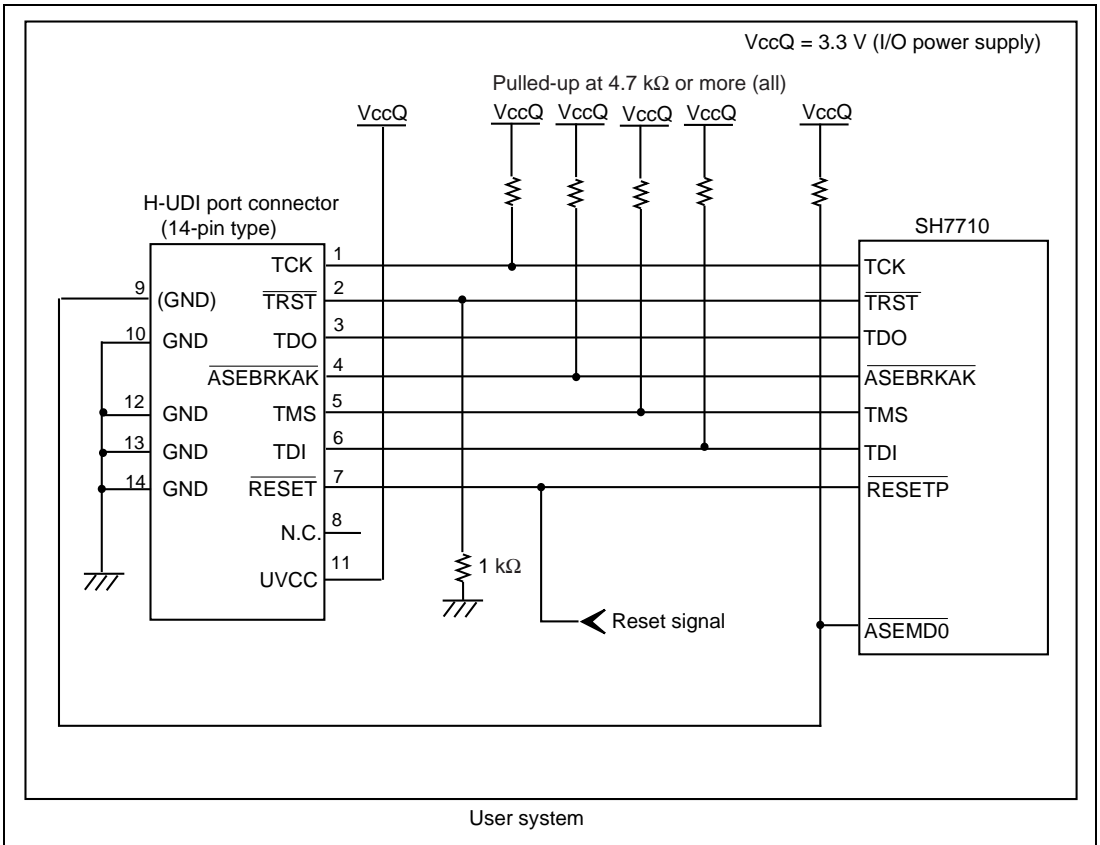
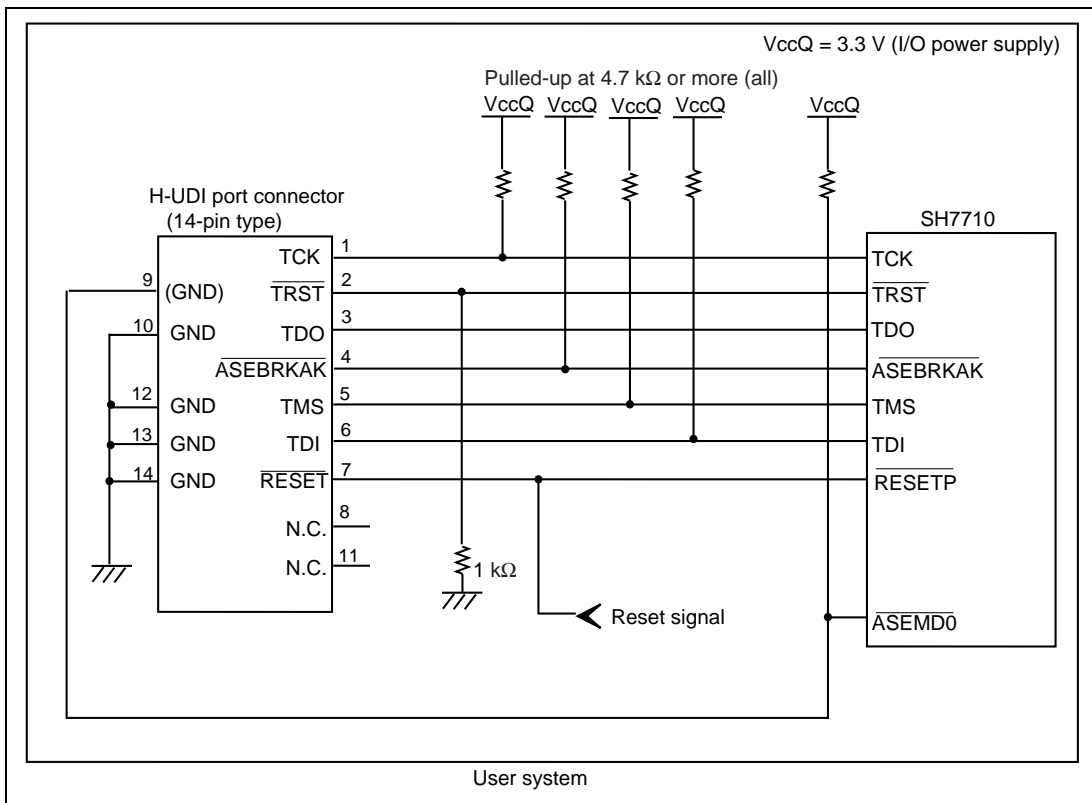

Figure 1.5 Recommended Circuit for Connection between the H-UDI Port Connector and MPU when the Emulator is in Use (14-Pin Type UVCC Connected)
Figure 1.6 Circuit for Connection between the H-UDI Port Connector and MPU when the Emulator is in Use (14-Pin Type UVCC Not Connected*)
Figure 1.5 shows a recommended circuit for connection between the H-UDI and AUD port connectors (14 pins) and the MPU when the emulator is in use. Figure 1.6 shows a circuit for connection when UVCC is not connected.
- (1) When the emulator is used: /ASEMD0 = 0 (ASE mode)
- (2) When the emulator is not used: /ASEMD0 = 1 (normal mode)Figures 1.5 and 1.6 show examples of circuits that allow the /ASEMD0 pin to be GND (0) whenever the emulator is connected by using the user system interface cable. When the /ASEMD0 pin is changed by switches, etc., ground pin 9. Do not connect this pin to the /ASEMD0 pin.
5. When the power supply of the user system is turned off, supplying VccQ of the user system to the UVCC pin reduces the leakage current from the emulator to the user system. A level shifter that is activated by the internal power supply or user power supply (changed by the switch) is installed in the interface circuit of the emulator. If the user power is supplied to the UVCC pin, the level shifter is not activated as long as no user power is supplied. When the power supply of the user system is turned off, no current flows from the user interface. The I/O voltage level of the user system interface can be the same as that of the VccQ. To operate the emulator with low voltage (lower than 3.3 V), the VccQ must be supplied to the UVCC pin. Make the emulator's switch settings so that the VccQ will be supplied (SW2 = 1 and SW3 = 1) (as shown in figure 1.5).
When the circuit is connected as shown in figure 1.5, the switches of the emulator are set as SW2 = 1 and SW3 = 1. For details, refer to section 3.8, Setting the DIP Switches, in the Debugger Part of the SuperH™ Family E10A-USB Emulator User's Manual.
When the circuit is connected as shown in figure 1.6, the switches of the emulator are set as SW2 = 0 and SW3 = 1. For details, refer to section 3.8, Setting the DIP Switches, in the Debugger Part of the SuperH™ Family E10A-USB Emulator User’s Manual.